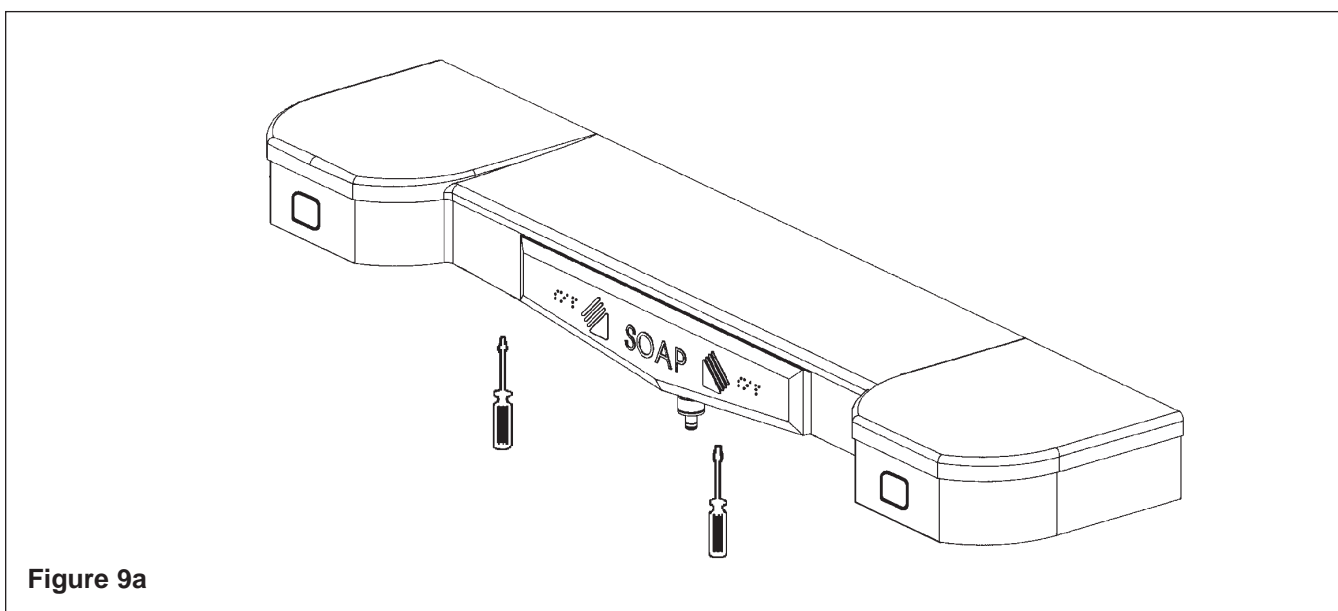

Figure 9a
1. Using two screwdrivers (or similar tool), push up on the release tabs located beneath the soap dispenser and pull out the soap tank from the sprayhead (see Figure 9a).